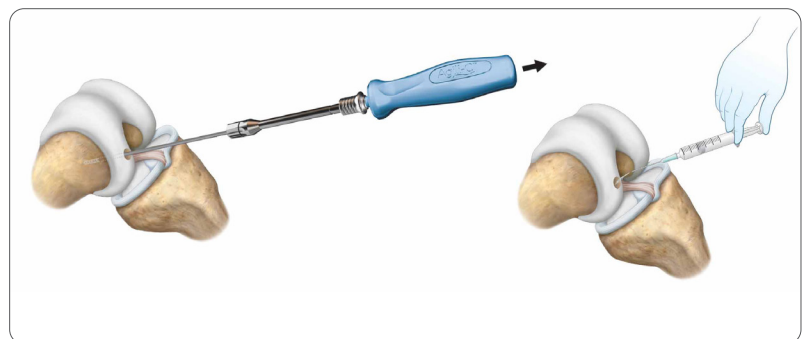

Figure 10
10. Remove the Shaper and the K-wire and rinse the hole with saline to wash out any debris (**Figure 10**).